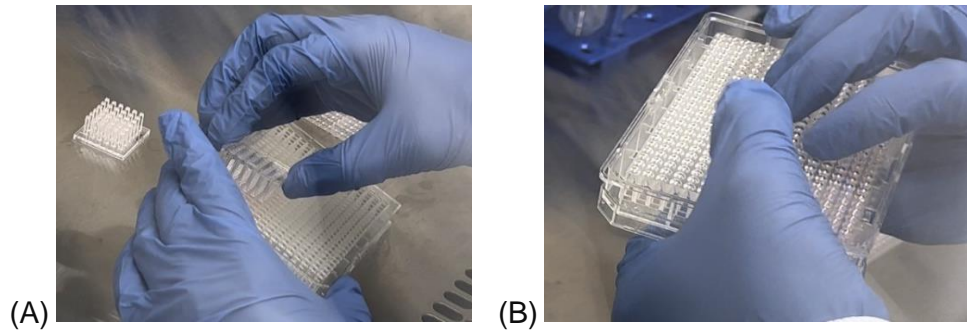

Figure 6. (A) Inserting of the 36PillarPlate in the ULA 384-well plate with spheroids. **(B)** Inverting of the sandwiched plates for spheroid transfer.
18. Align one pillar located in the corner of the 36PillarPlate with one well in the ULA 384-well plate, insert the pillar plate with Matrigel in the ULA 384-well plate with spheroids, cover the sandwiched plates with a 384-well plate lid, leave the sandwiched plates for 1 minute on a flat surface for letting the spheroids settle down in the center of the 384-well bottom, and then quickly invert the sandwiched plates (with the pillar plate down) for spheroid transfer (**Fig. 6**).